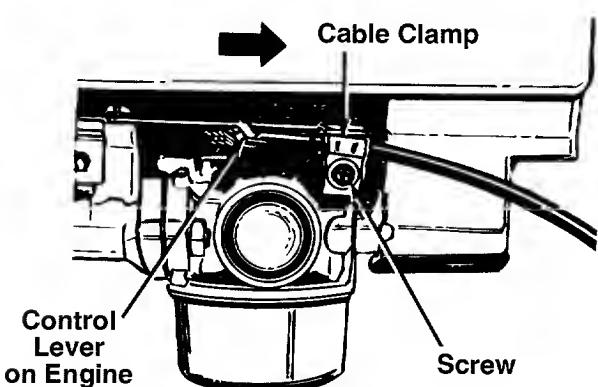

FIGURE 8B.—Tecumseh Engine
- NOTE:** If you have a Tecumseh engine, simply loosen the screw shown in figure 8B so the cable will move freely beneath the clamp. It is not necessary to remove the screw and clamp completely.